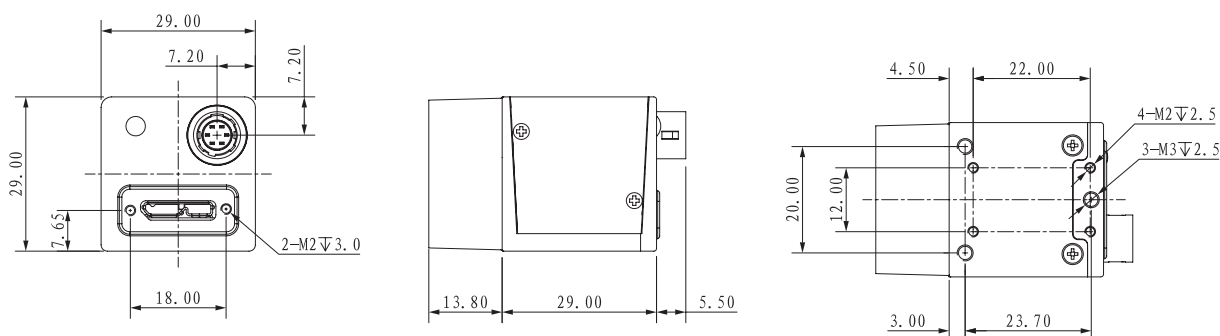

Fig. 1-3: Mechanical Dimensions (in mm) for USB 3.0 Cameras.
- USB3.0 Cameras with 29*29*29mm housing are as shown in Figure 1-3.